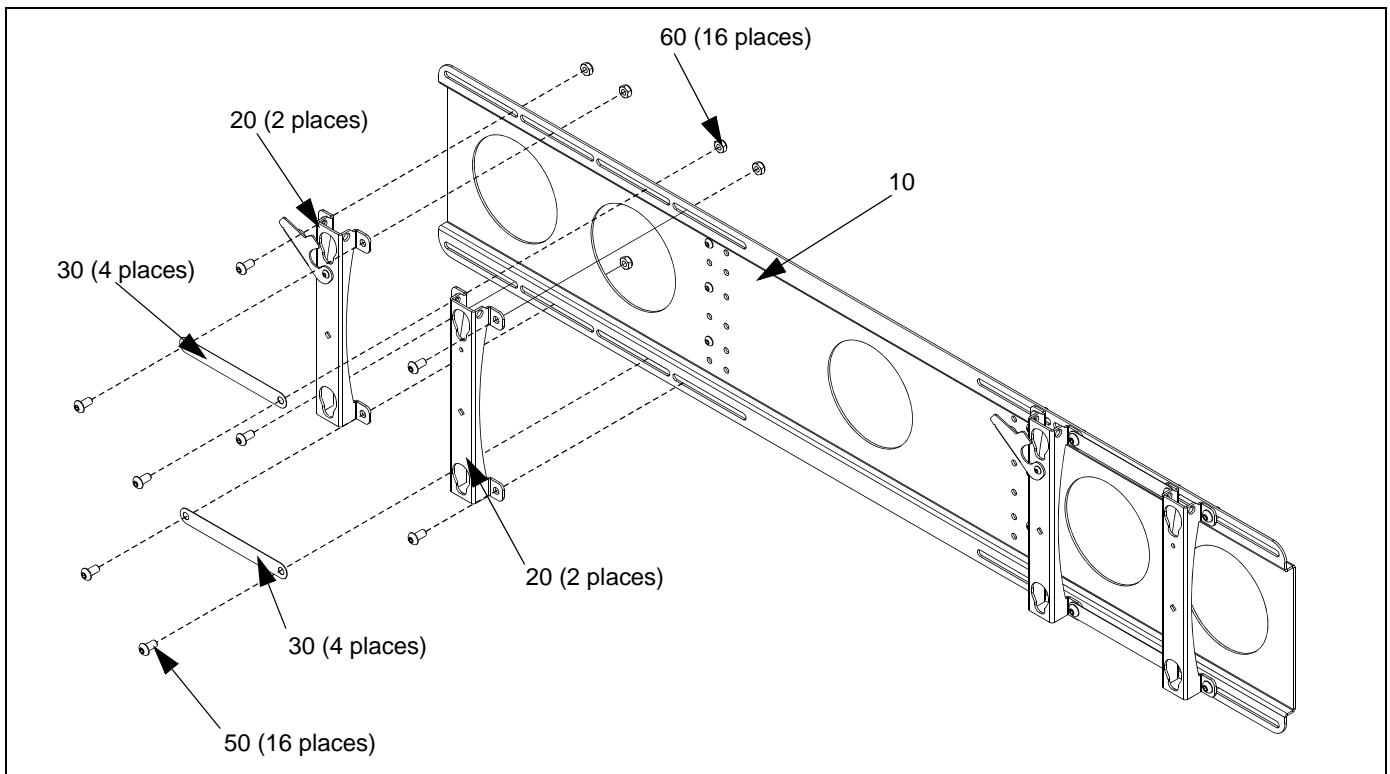

Figure 3:
6. Carefully remove displays one at a time and fully tighten all hardware securing uprights to mounting plate. (see Figure 3)